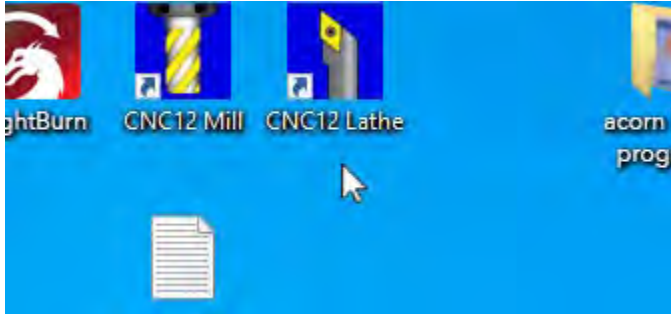

FIGURE 4
- Click on the CNC12 Mill or the CNC12 Lathe icon to open the controller page software (see Figure 4).